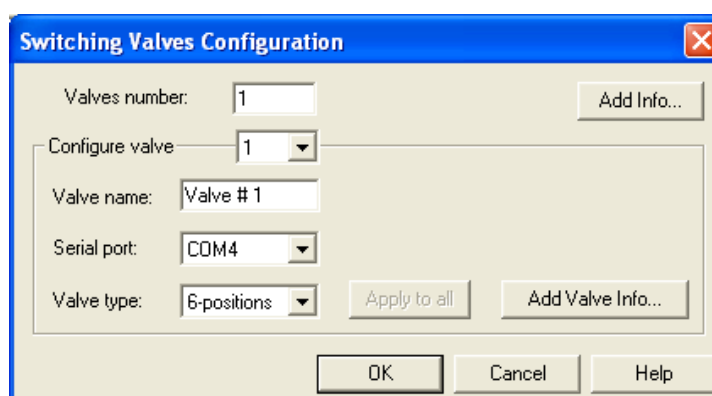

Fig. 11 Configuration window for the switching valves
2. Each valve must be selected and configured separately Fig. 11.